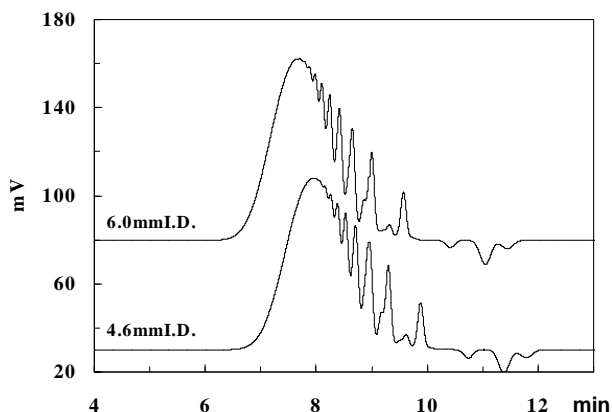

**Figure-23 Effect of Measurement Flow Rate and Particle Size on Calibration Curve**
**Figure-23** shows the calibration curve obtained by measuring the standard polystyrene using packing materials of different particle sizes and different measurement flow rates. When a packing material with particle size of 3 $\mu$ m is used for samples with molecular weight of 1 million or higher, delay in elution due to breaking in branched chains is seen at 0.35mL/min. Furthermore, delay in elution can also be seen for samples with molecular weight of several hundred thousands or larger. This phenomenon appears more